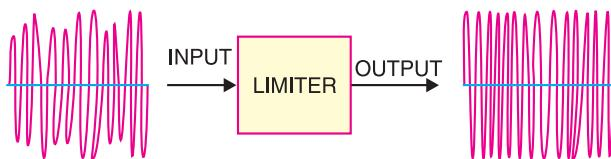

Fig. 16.22
- Limiter Stage.** The output from IF stage is fed to the limiter. This circuit is an IF amplifier tuned to 10.7 MHz but its main function is to remove AM interference from the FM signal. Fig. 16.22 shows how the limiter removes AM interference from the FM signal.
Fig. 16.22 shows how the limiter removes AM interference from the FM signal. The input is an FM signal, but it has different amplitude levels because of AM interference has been added. However, the limiter circuit keeps the output level constant for different input levels.